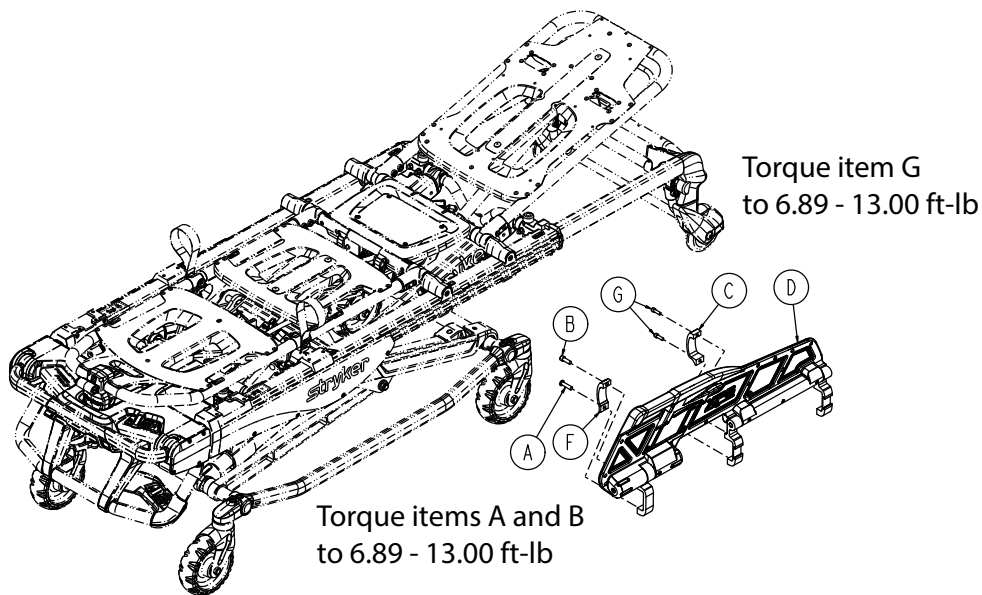

Figure 48 – Replace the XPS siderail
6. Using a 3/16" hex wrench, remove the hex socket button head cap screw (A), socket head cap screw (B) and XPS inner bracket (F) that secure the ratchet assembly at the foot end of the main assembly (Figure 48). Save the screws and bracket.
7. Using a 3/16" hex wrench, remove the two socket head cap screws (G) that secure the siderail clamp (C) to the outer rail assembly (Figure 48). Save the screws and clamp.
8. Remove and discard the XPS assembly (D) (Figure 48).